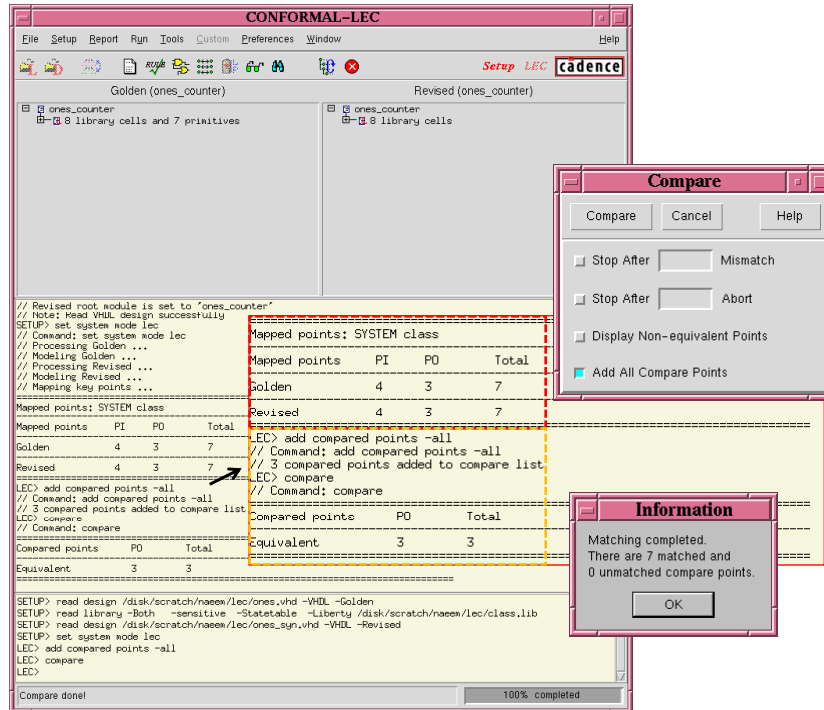

Fig. 20: Conformal map points and equivalence results
Since both the designs have been successfully loaded, we can now start the verification process. Conformal has 2 operating modes, the “Setup” and the “LEC” mode. Switch to the LEC mode by Clicking on the “LEC” icon in the upper right hand corner of the window (see Fig. 20).
A table is now printed in the conformal LEC window. It lists the primary inputs (PI) and primary outputs (PO) in both the revised and golden designs. They are equal if the golden and revised designs have the same number of inputs and outputs. To run the equivalence checker, select “Run ⇒ Compare” and click “OK” (see Fig. 20). The equivalence checker
now reduces the two designs into canonical representations and then checks to see if they are equal. In the example shown in Fig. 20, all 3 outputs are equivalent. Or in other words, the RTL and the synthesized designs are functionally equivalent.